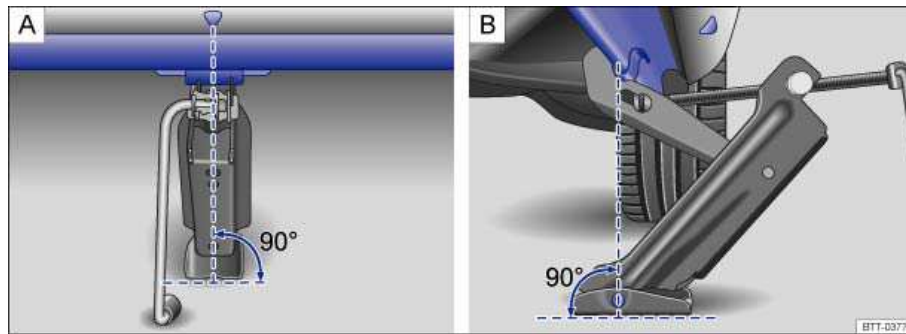

Fig. 187 Jack in position at the left rear lift point.
9. Position the jack so that its base is directly underneath the lift point ⇒ fig. 187, making sure that the entire base of the jack rests securely on the ground.